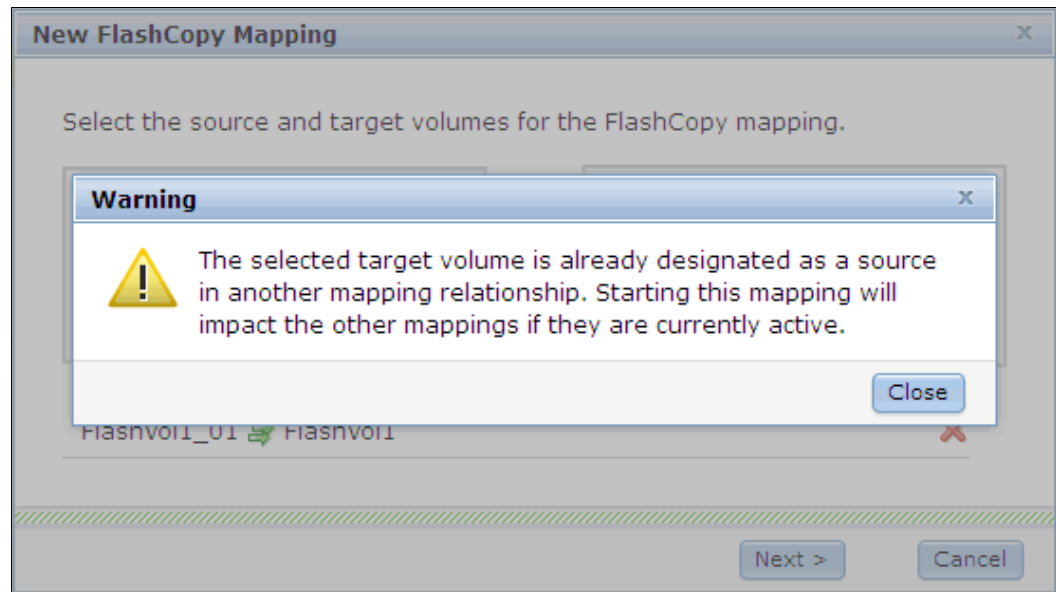

Figure 10-47 Flash restore warning
4. Click **Add**. A warning message appears, as shown in Figure 10-47. Click **Close**. This message is shown because we are using a source as a target.